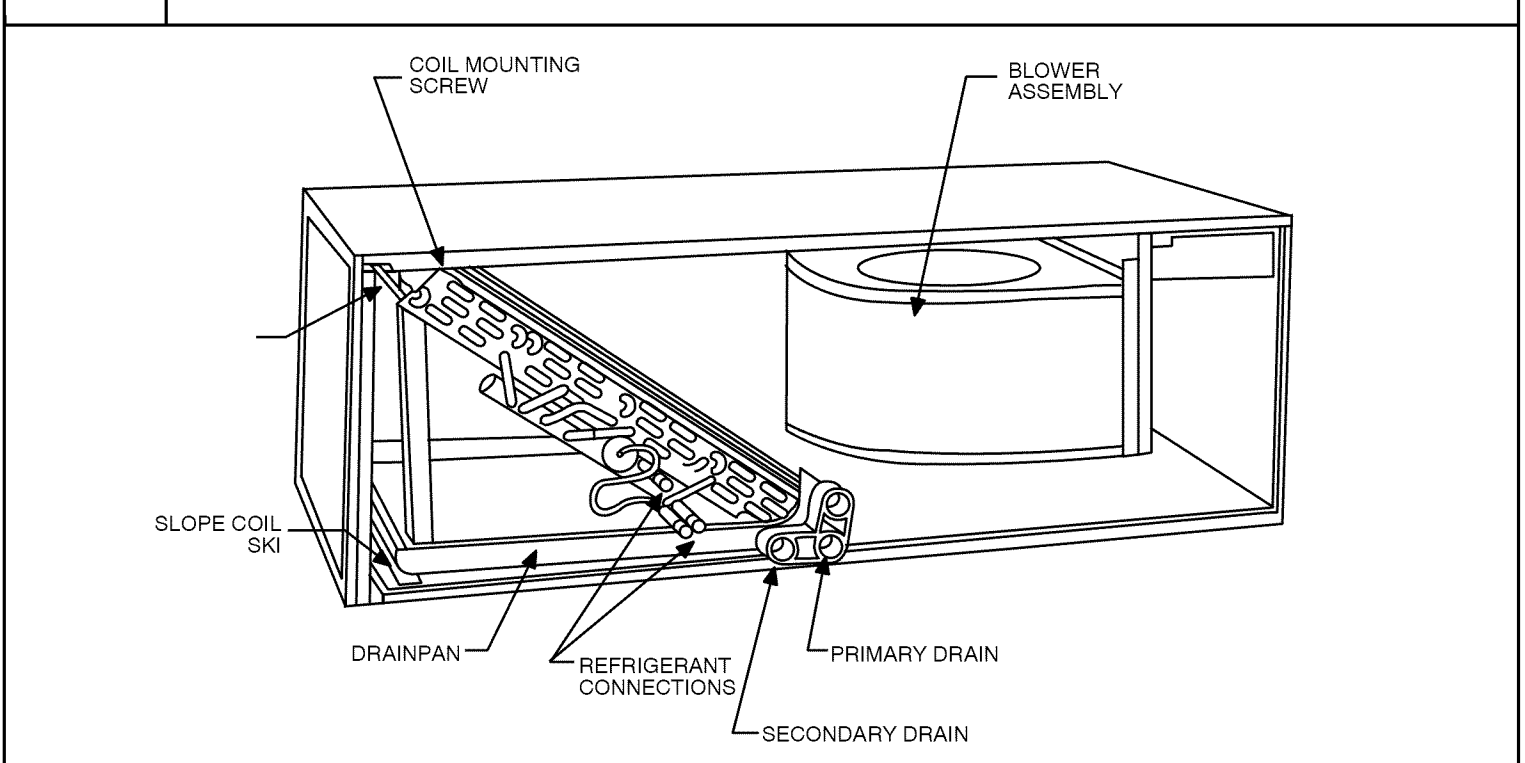

Figure 5
4. Lay fan coil unit on its right side and reinstall coil assembly with condensate pan down. (Refer to **Figure 5**)
6. Convert air-seal assembly for horizontal right. (Refer to **Figure 5**)
- C. Remove filler plate (A) and install air splitter (B) in place of filler plate.
- D. Install filler plate (A) as shown in horizontal right application.
- E. Remove condensate troughs (C) and install on opposite tube sheets.